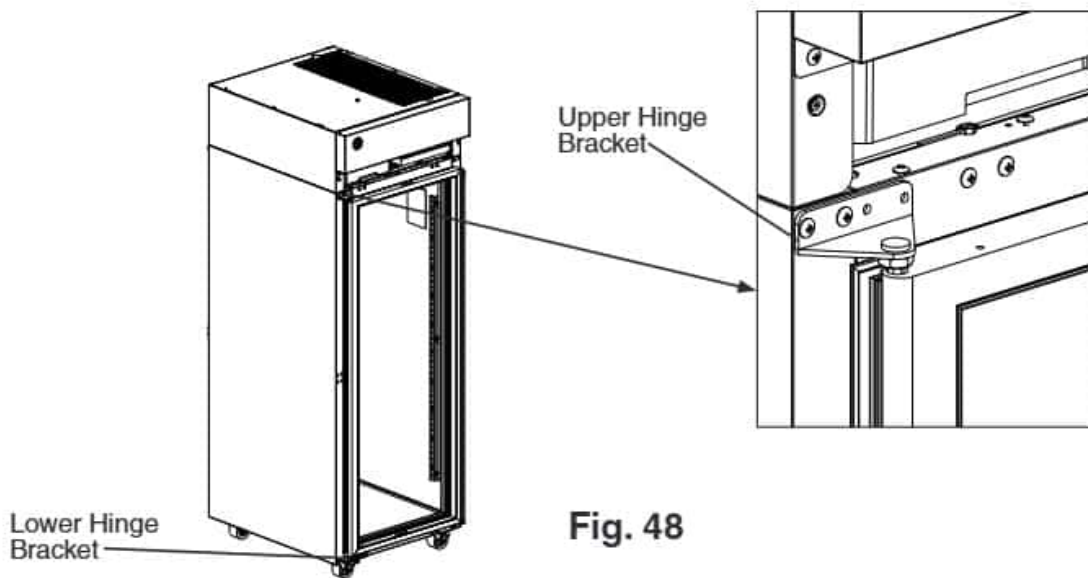

Fig. 48
- 17) Place the door on the lower hinge bracket in the closed position, then secure the upper hinge bracket to the cabinet. See Fig. 48.